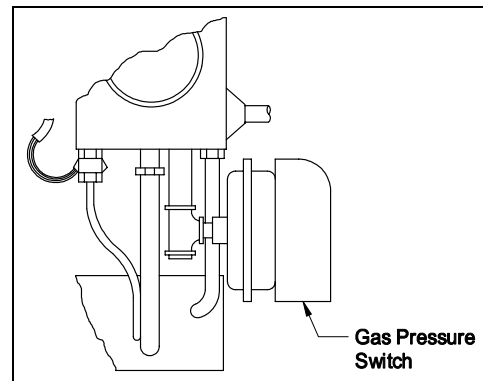

Figure 4
3. Install the gas pressure switch into the side of the pipe tee. The gas pressure switch is supplied with a restrictor orifice in the inlet and outlet ports. With these orifices in place, the switch does not need to be vented. This feature complies with current ANSI standards for gas regulators. (See Figure 4)